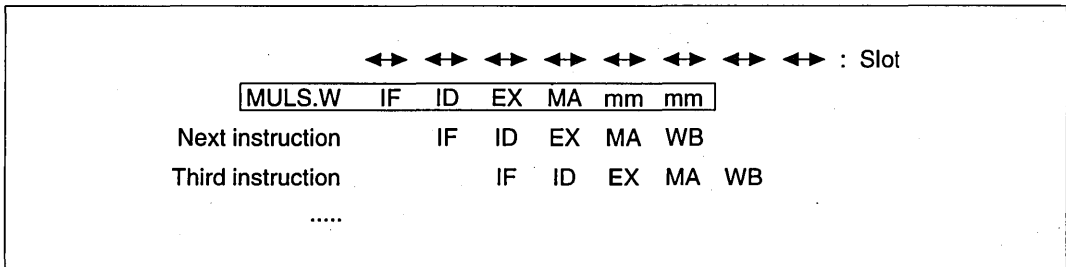

Figure 8.53 Multiplication Instruction Pipeline
Operation: The pipeline has six stages: IF, ID, EX, MA, mm, and mm (figure 8.53). The MA accesses the multiplier. The mm indicates that the multiplier is operating. The mm operates for two cycles after the MA ends, regardless of the slot. The MA of the MULS.W instruction, when it contends with IF, splits the slot as described in Section 8.4, Contention Between Instruction Fetch (IF) and Memory Access (MA).